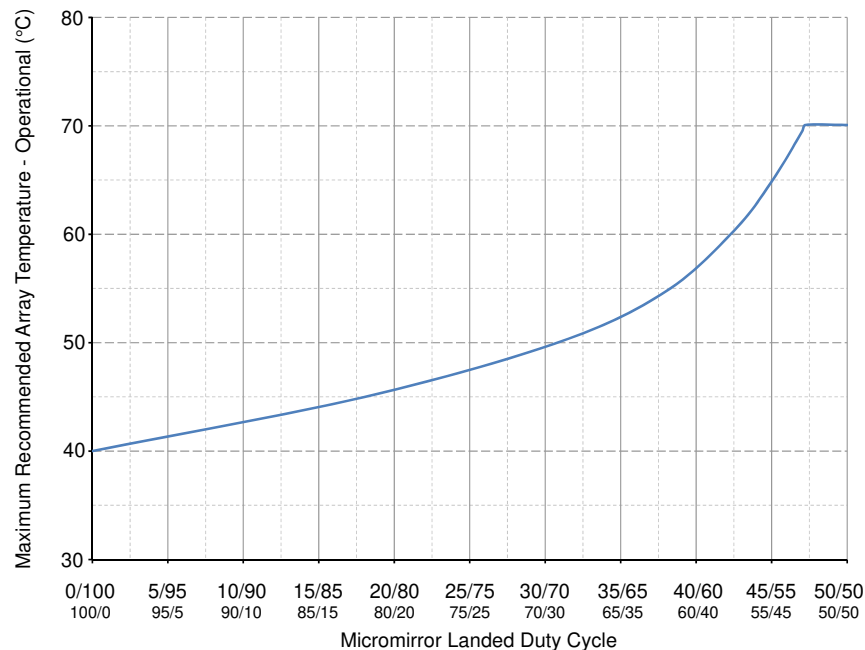
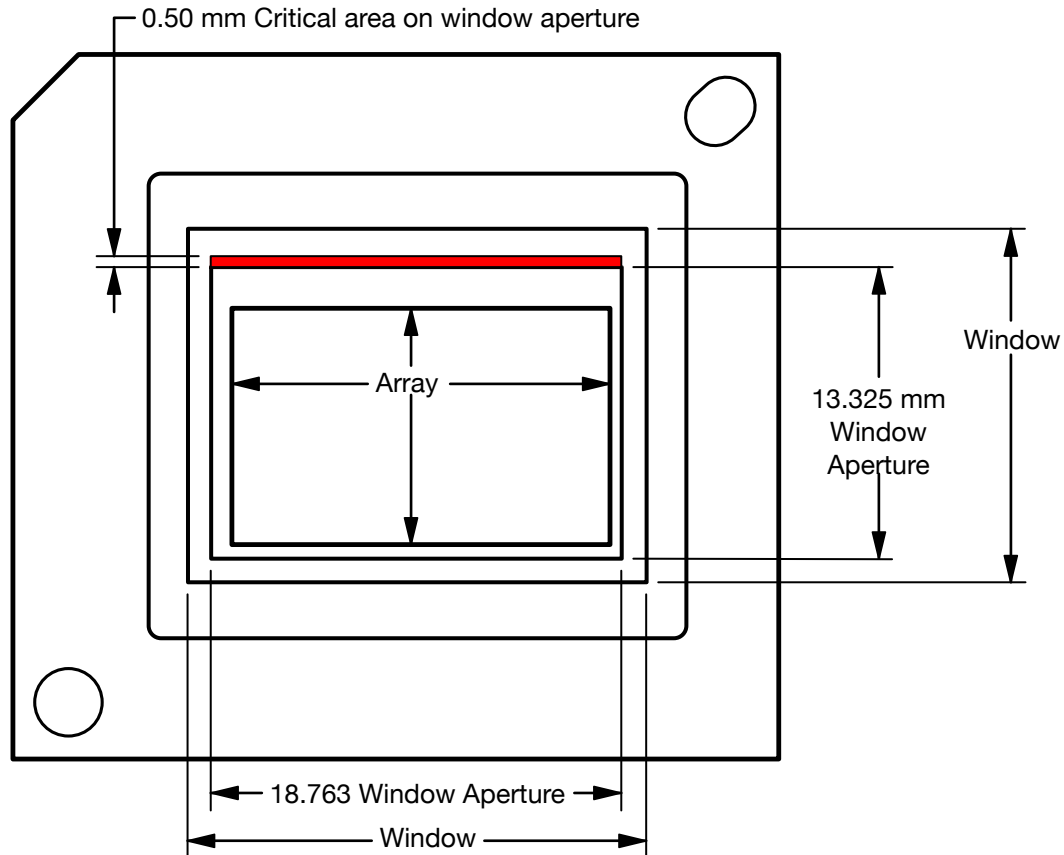

Figure 6-1. Maximum Recommended Array Temperature—Derating Curve
Figure 6-2. Illumination Overfill Diagram - Critical Area
- (9) Long-term is defined as the usable life of the device.
- (10) Per Figure 6-1, the maximum operational array temperature is derated based on the micromirror landed duty cycle that the DMD experiences in the end application. See Micromirror Landed-on/Landed-off Duty Cycle for a definition of micromirror landed duty cycle.
- (11) Short-term is the total cumulative time over the useful life of the device.
- (12) The average over time (including storage and operating) that the device is not in the elevated dew point temperature range.
- (13) Exposure to dew point temperatures in the elevated range during storage and operation is limited to less than a total cumulative time of CT_{ELR} .
- (14) Applies to region defined in Figure 6-2
- (15) The active area of the DMD is surrounded by an aperture on the inside of the DMD window surface that masks structures of the DMD device assembly from normal view. The aperture is sized to anticipate several optical conditions. Overfill light illuminating the area outside the active array can scatter and create adverse effects to the performance of an end application using the DMD. Minimizing the light flux incident outside the active array is a design requirement of the illumination optical system. Depending on the particular optical architecture and assembly tolerances of the optical system, the amount of overfill light on the outside of the active array may cause system performance degradation.
- (16) The maximum allowable optical power incident on the DMD is limited by the maximum optical power density for each wavelength range specified and the micromirror array temperature (T_{ARRAY}).